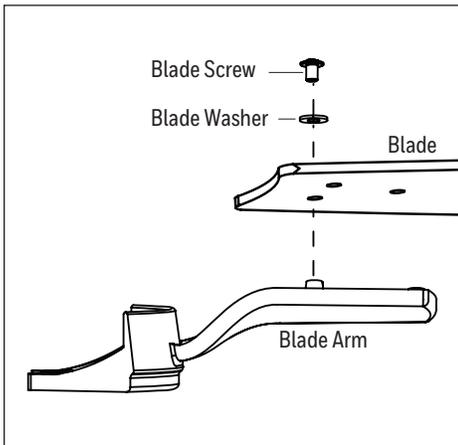

Figure 5.4
- Partially insert the blade screws along with blade washer through blade and into the blade arm. Tighten each blade screw starting with the one in the middle (Figure 5.4). Repeat this step for the remaining blades and blade arms (Figure 5.4).